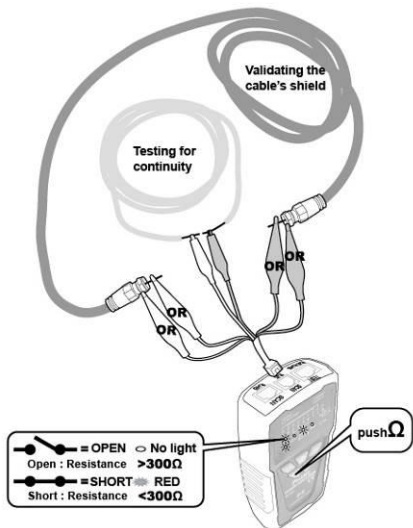

Figure 9 Coaxial Cable & Continuity Test
1. Connect the Transmitter to the circuit as shown in Figure 9. Connect the test leads to the coaxial cable to be tested.